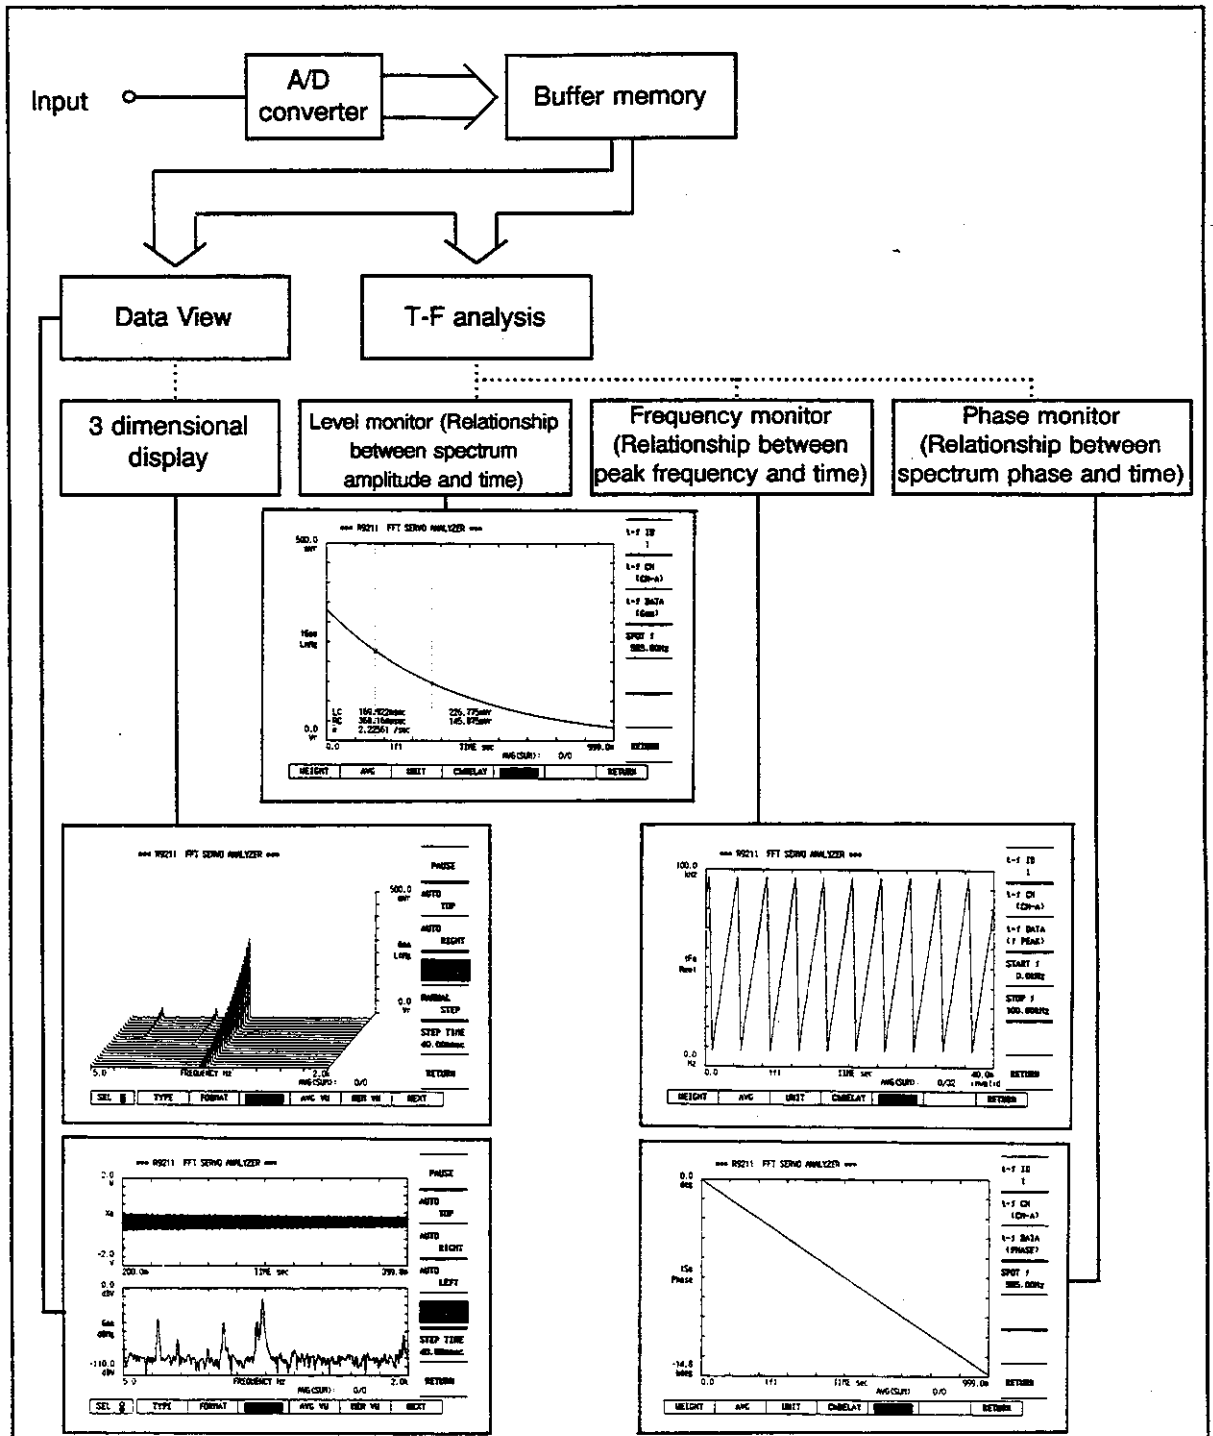

Figure 7-4 Block Diagram Representing the Analysis of a Long Duration Signal in the T-F Mode
T-F analysis (feature (1)) and Data View (feature (2)) have been separately described. However, the same buffer is used for both. Figure 7-4 graphically represents (block diagram) the analysis of the time evolution of a long duration signal in the T-F mode.